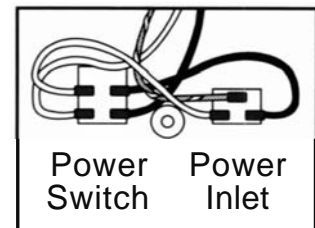

Figure 14
- A. locate the longer of the two black and white cables. Plug the cables into the front end cap and arrange as shown in Figure 14.